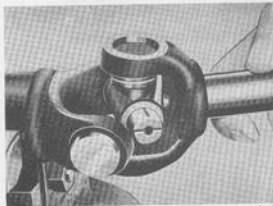

Fig. 4-141. Removing spider, II
5. Drive out one of the needle bearings with a thin metal punch. Remove the spider. See Fig. 4-141. Drive out the other needle bearing.